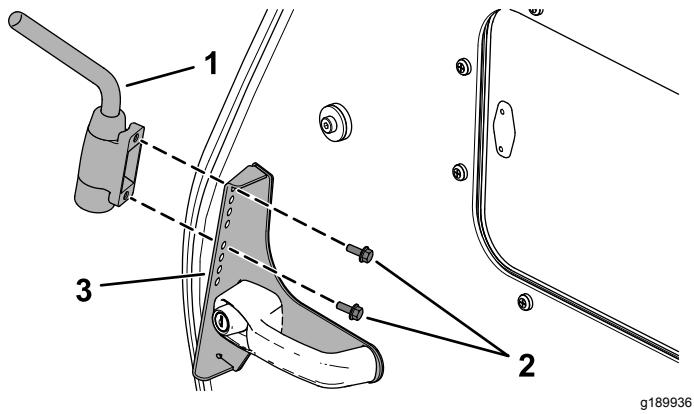

Figure 5
7. Install the mirror arm to the top holes of the mirror mount using 2 flange-head screws (6 x 16 mm) as shown in Figure 5.